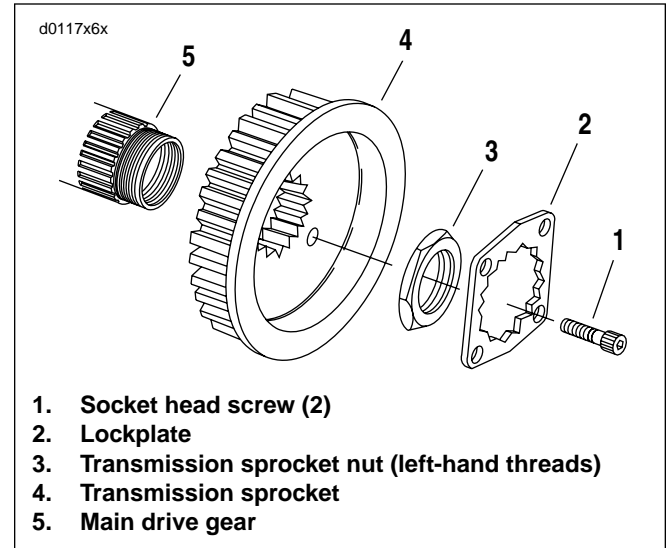

Figure 6-101. Transmission Sprocket
8. See Figure 6-101. Place transmission in first gear. Remove two socket head screws (1) and lockplate (2).
1. See Figure 6-101. Install transmission sprocket (4) with secondary drive belt onto main drive gear (5).
3. Apply a few drops of LOCTITE 262 (red) to the **left-hand threads** of transmission sprocket nut (3) and lightly coat the washer-faced side with clean H-D 20W50 engine oil. Wipe off any excess oil.
9. See Figure 6-101. Install lockplate over nut so that two of lockplate's four drilled holes (diagonally opposite) align with sprocket's two tapped holes.
10. See Figure 6-101. Install two socket head screws through aligned holes of lockplate and into tapped holes of sprocket. Tighten to 90-110 **in-lbs** (10.2-12.4 Nm).
See Figure 6-101. The original equipment socket head screws (1) have thread-locking compound applied to them. Since this compound remains effective for about three removal/installation cycles, the original screws may be reused up to three times. After the third removal/installation cycle, replace both screws with **new** screws identical to the original.